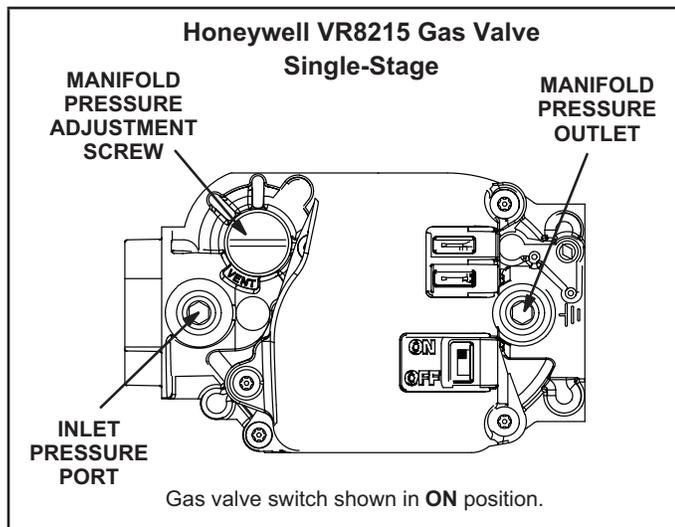
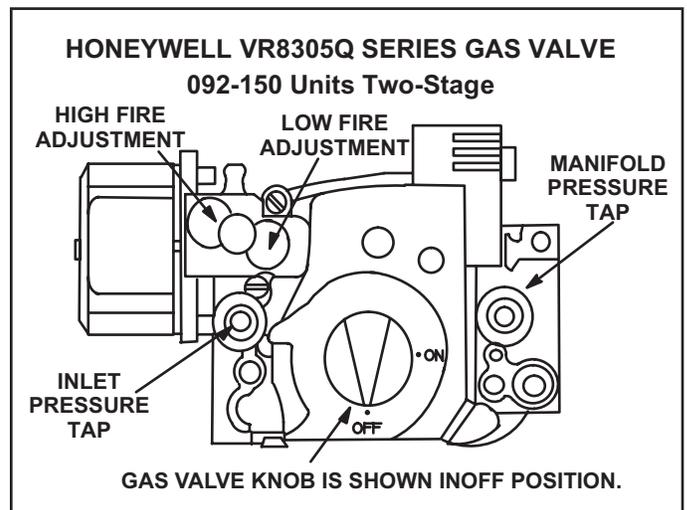

FIGURE 1
FIGURE 4
Gas Valve Operation (figure 1, 2, 3 and 4)
- 5 - Turn gas valve switch to **OFF**. See figure 1, 2, or 3. On Honeywell VR8305Q gas valves, turn knob on gas valve clockwise to **OFF**. Do not force. See figure 4.
- 6 - Wait five (5) minutes to clear out any gas. If you then smell gas, **STOP!** Immediately call your gas supplier from a neighbor's phone. Follow the gas supplier's instructions. If you do not smell gas, go to the next step.
- 7 - Turn gas valve switch to ON. See figure 1, 2, or 3. On Honeywell VR8305Q gas valves, turn knob on gas valve counterclockwise to **ON**. Do not force. See figure 4.